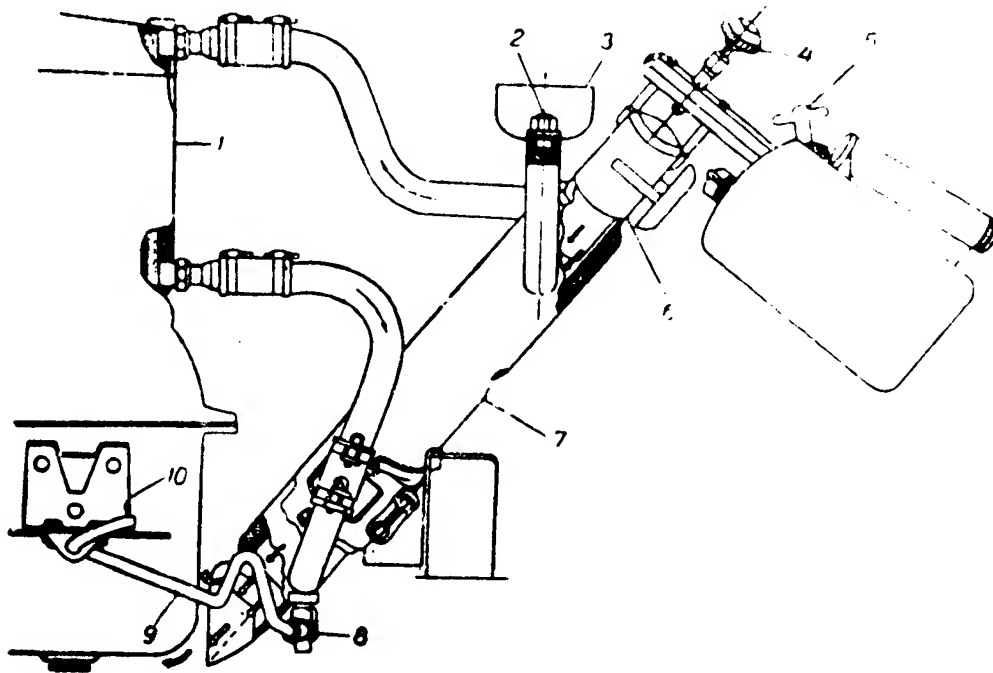

Fig. 5. Starting Heater
2. Light the starting heater torch (Fig. 5.) For this purpose screw in the torch tank plug, turn in the adjusting needle, make a few strokes with the pump, pour some gasoline into the burner cup and light up the gasoline. After 10 min open partly the adjusting needle and close the burner cap.